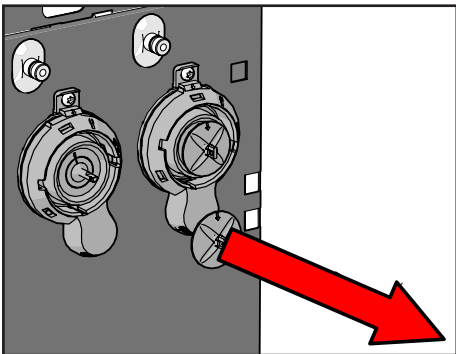

Figure 39.
11. Remove the mixer paddle from the mixer axis (see Figure 39).